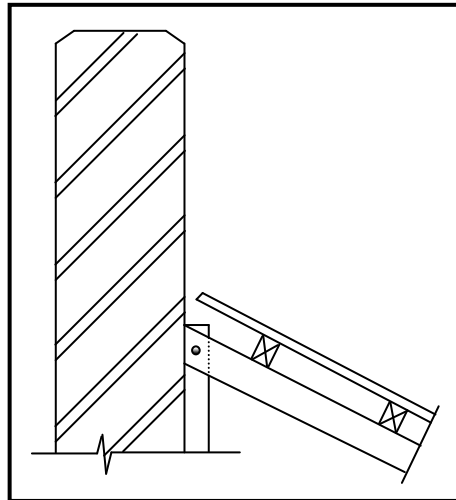

FIGURE 1.10
1.10 FIGURE 1.10 below shows a section through a brick parapet wall with a lean-to roof.
- 1.10.3 Explain the purpose of flashing if installed in FIGURE 1.10. (1)